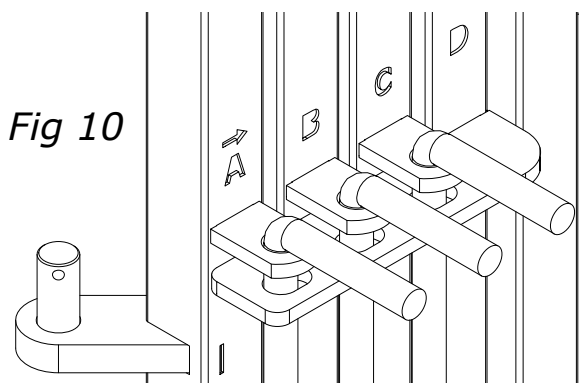

Fig 10
Offer up panel (C) and fix to panel (D) with one of the supplied coupling bars. Use the remaining slot between panel (B) and panel (D). (Fig 10)